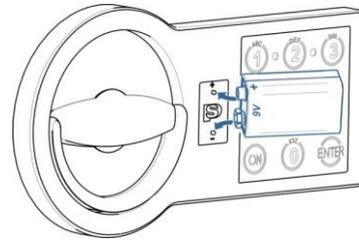

Fig.5.2
- Hold the battery on the two contacts (see Fig. 5.2). Pay attention to the correct polarity when inserting the battery !!